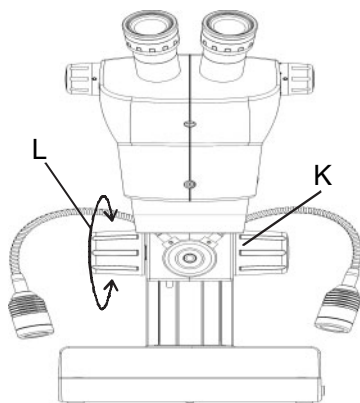

Fig. 12
1. Hold firmly the right knob shown as (K). Refer Fig. 12.
2. Rotate left knob (L) to adjust torque of the focusing mechanism of microscope.
3. By rotating knob (L) to clock wise will increase torque and by rotating anticlockwise will decrease torque.